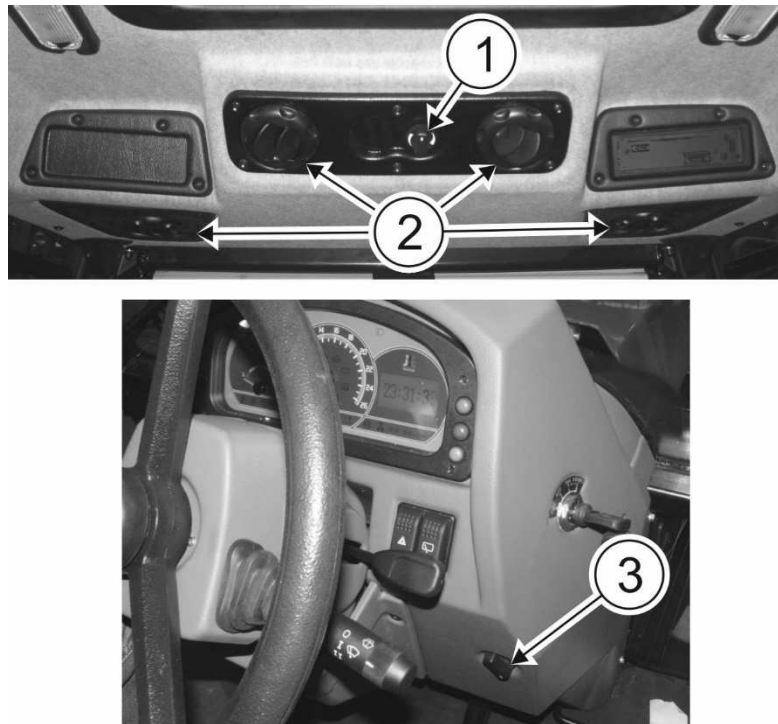

FIGURE 3.26 CAB VENTILATION AND HEATING SYSTEM
In positive temperatures, knob **3** (**FIGURE 3.26**) for controlling temperature of air blown from air vents should be switched off when the cab ventilation system is switched on.
- to increase effectiveness of cab heating, switch on fan **1** (**FIGURE 3.26**) and optimally set directing guides **2** (**FIGURE 3.26**) of air vents;
- set knob **3** (**FIGURE 3.26**) in required position.